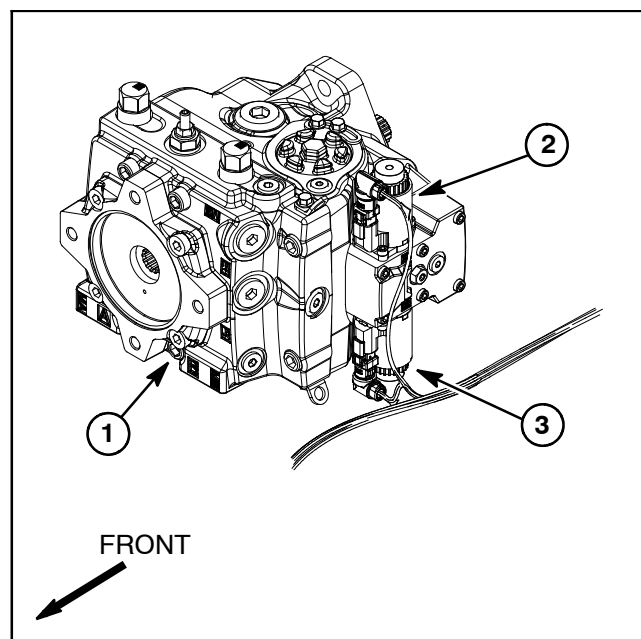

Figure 69
3. Label wire harness connectors that attach to the two (2) solenoid coils on left side of piston pump (Fig. 69). Disconnect harness connectors from solenoid coils on piston pump.